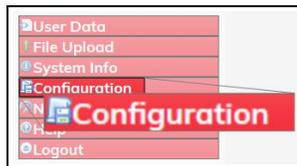

Figure 295: Configuration link
4. On the **Menu** list, click the **Configuration** link. Figure 295